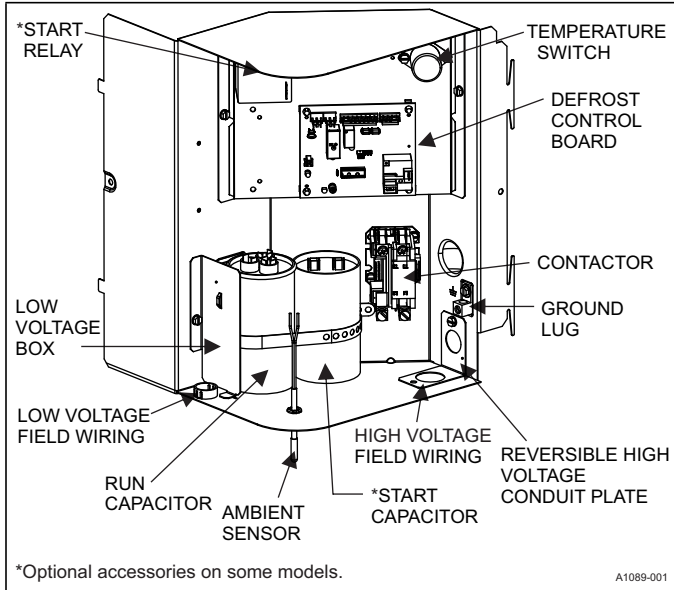
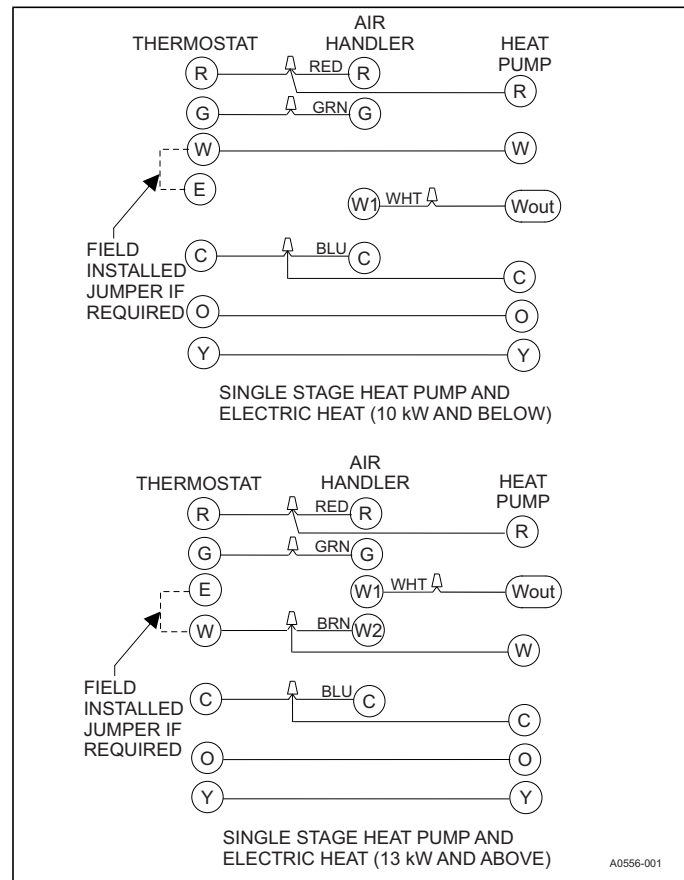

FIGURE 10: Outdoor Unit Control Box (Single-phase – 208/230 V)
FIGURE 11: Typical Field Wiring (Air Handler/Electrical Heat) (Single-phase and Three-phase)
4. Route wires from disconnect through power wiring exit provided and into the unit control box as shown in Figure 10.
1. Route low voltage wiring into bottom of control box as shown in Figure 10. Make low voltage wiring connections inside the low voltage box per Figure 11.